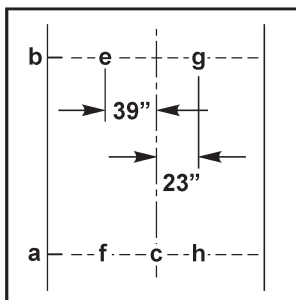

Figure 39
3. Mark points “e” and “f” on the pavement 39 inches to the LEFT of center line “c” on lines “a” and “b”. Mark points “g” and “h” on the pavement 23 inches to the RIGHT of center line “c” on lines “a” and “b” (see Figure 39).